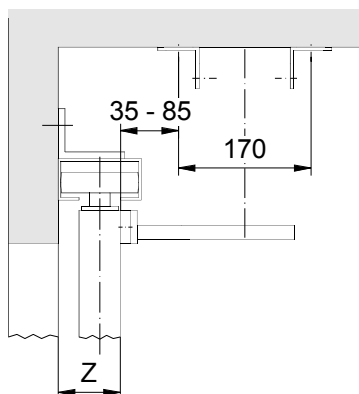

Fig. 6
- Mark the location of the mounting holes parallel to the door. Fig. 6